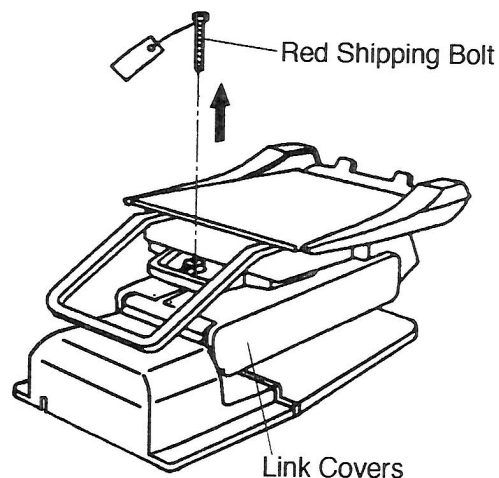

Figure 3
- 4) REMOVE RED SHIPPING BOLT from seat structure before plugging in chair to power source. (See Figure 3.)